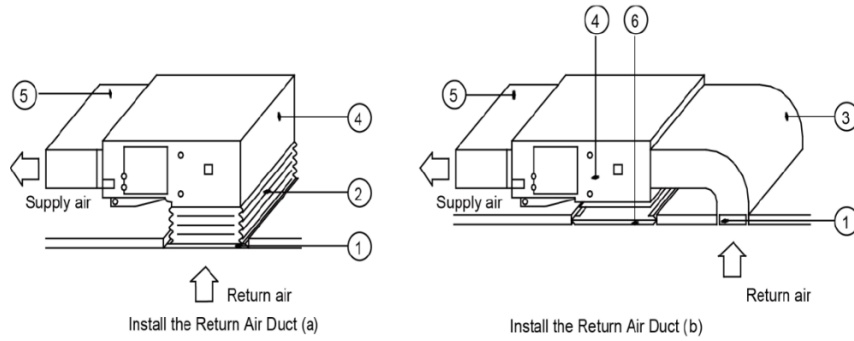

Fig23
5. The installation method can be chosen when considering the conditions of the building and maintenance etc., as shown in Fig23.